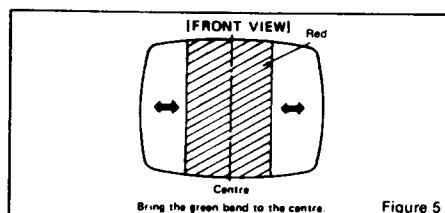

Figure 5
6.7 Spread the tabs apart as little as necessary and rotate both rings together to center the red band horizontally on the face of the CRT (approximate). (See fig. 5)